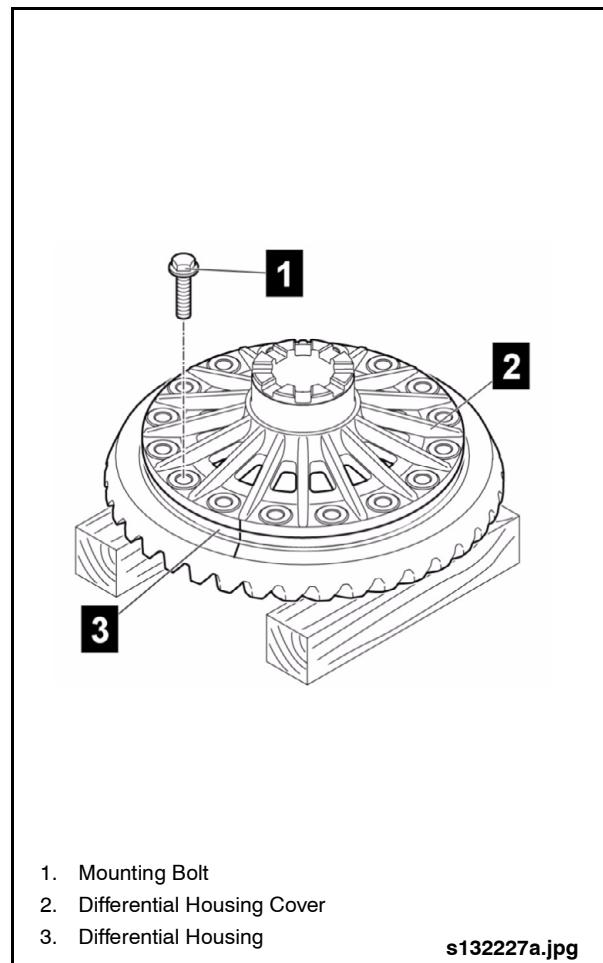

Fig. 2-66: Installing Differential Housing Cover
2. Install axle side gear onto differential pinion gears. See "Fig. 2-66: Installing Differential Housing Cover" on page 55.
1. Install the differential housing cover on differential housing, ensuring that markings are aligned. See "Fig. 2-66: Installing Differential Housing Cover" on page 55.